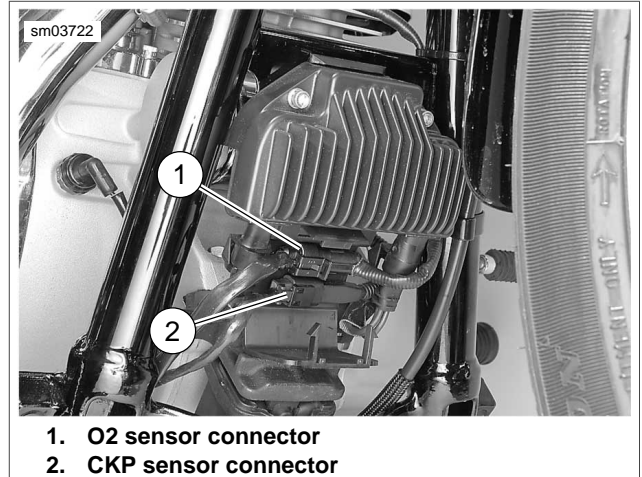

Figure 4-61. Front Electrical Caddy and Connectors
3. See Figure 4-61. Open front electrical caddy cover and disconnect front O2 sensor connector [138] (1). Remove connector housing from caddy.
14. See Figure 4-61. Connect front O2 sensor connector [138]. Close front electrical caddy cover.